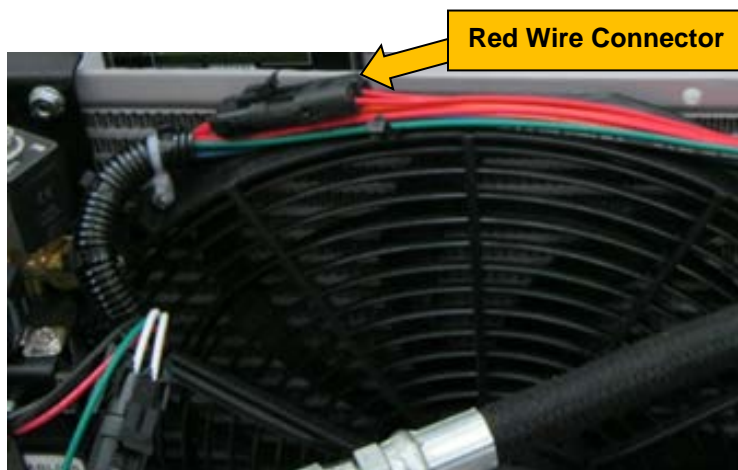
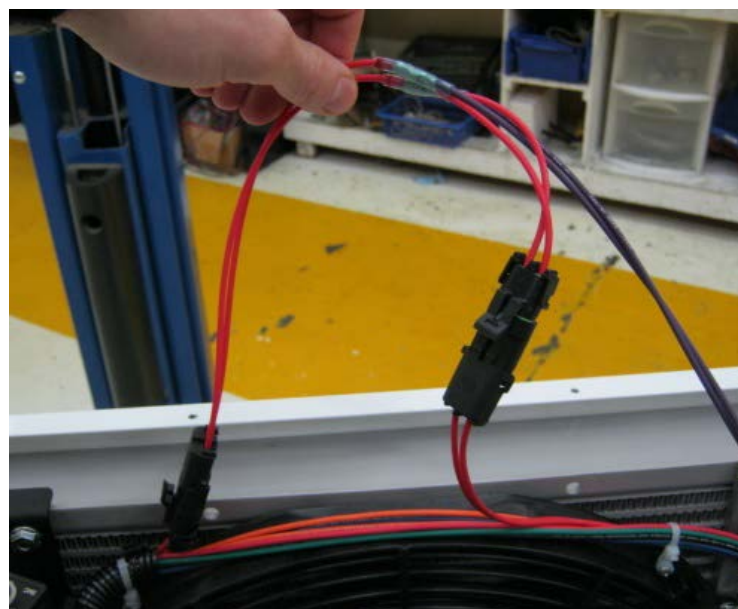

Figure 3 - Red Wire Connector Location
Figure 4 - New Red Wire Connected
- Locate the red wire connector located over the cooling fan (Figure 3). Disconnect the connector and install the red wire section of the supplied harness in line (Figure 4). Route the violet and blue wires towards the hydraulic manifold.